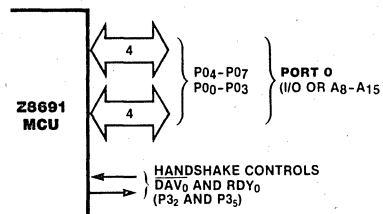

Figure 9. Port 0
**Port 0** can be programmed as a nibble I/O port, or as an address port for interfacing external memory (Figure 9). When used as an I/O port, Port 0 can be placed under handshake control. In this configuration, Port 3 lines  $P3_2$  and  $P3_5$  are used as the handshake controls  $DAV_0$  and  $RDY_0$ . Handshake signal assignment is dictated by the I/O direction of the upper nibble  $P0_4$ - $P0_7$ .